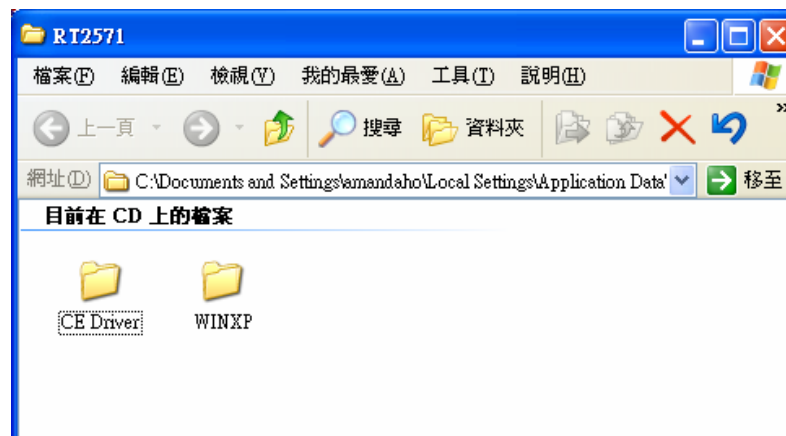

Figure 7-38: Wireless Driver OS Folders
Step 2: A new window opens (**Figure 7-38**). Select an OS folder. Double click the **Setup.exe** to install the LAN driver.